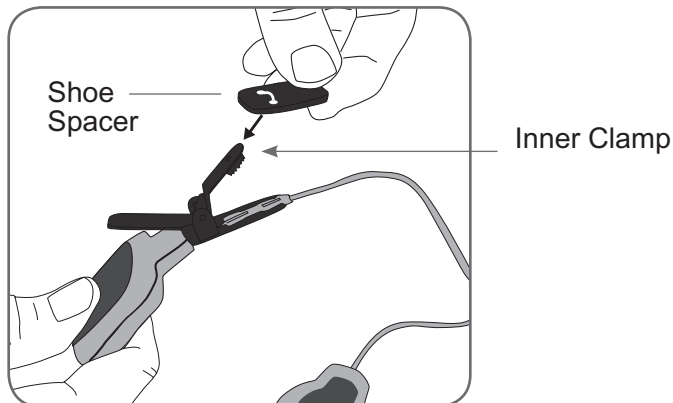

Figure 7-9: Attaching the shoe spacer.
1. Cover the inner clamp of the Intelli-Sense Gait Sensor with the shoe spacer. See Figure 7-9.